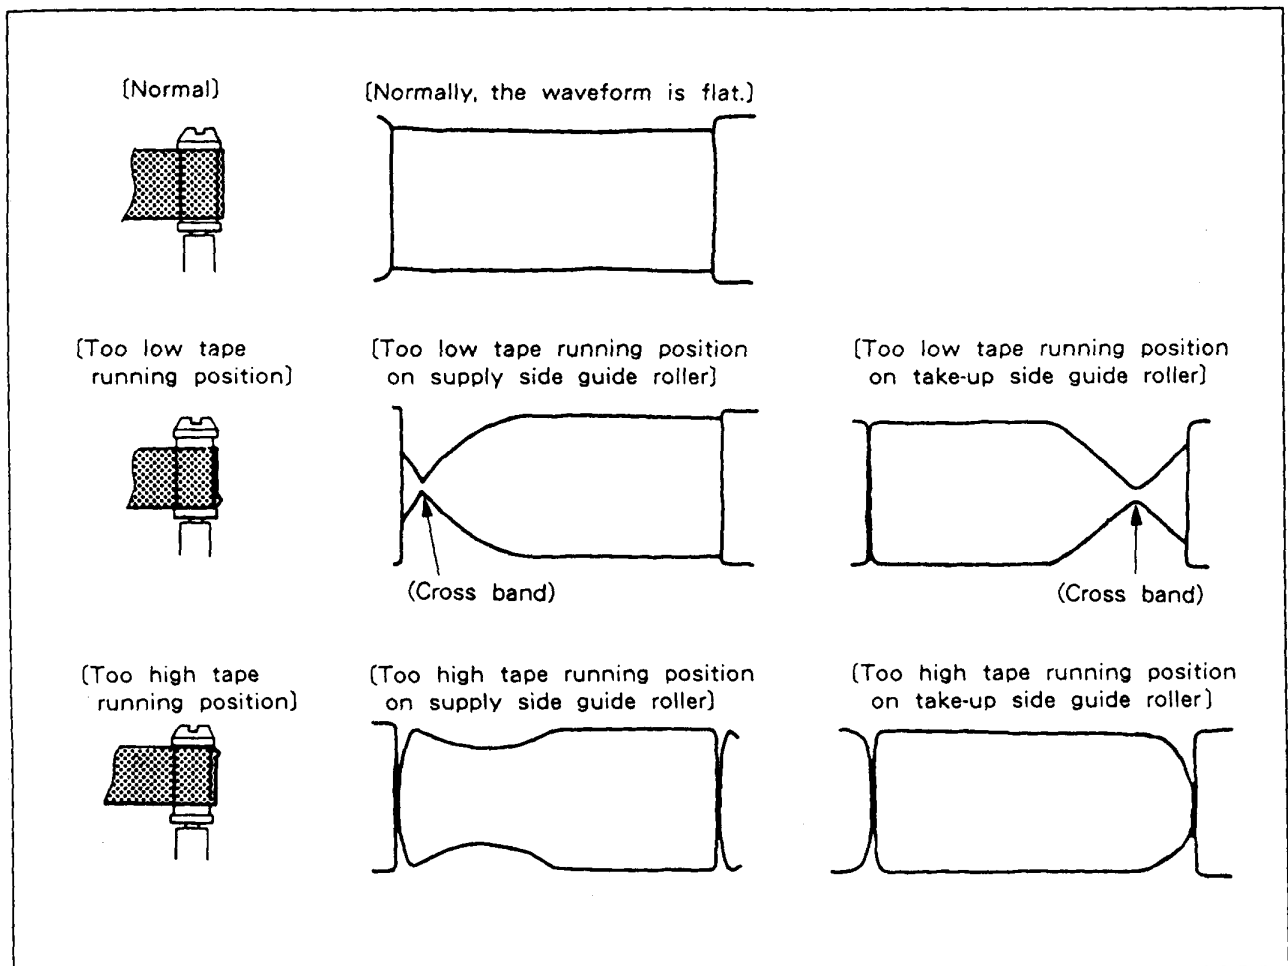

Fig. 6-4-4. Guide Roller Adjustment
**6-4-3. Guide Roller Adjustment (See Fig. 6-4-4.)**